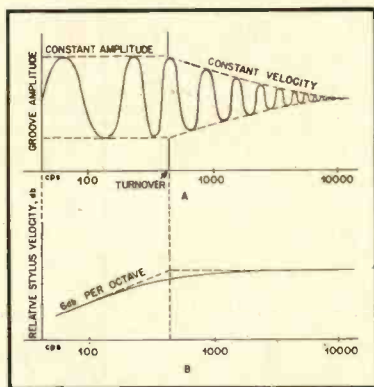

Fig. 9-2. (A) Constant-amplitude recording below turnover. (B) Bass attenuation required for (A).
All of these results are undesirable, and are counteracted by a doctoring of the bass-frequency content of the signal, to be compensated for in playback. Progressive bass attenuation is introduced below an arbitrarily chosen point, called the *turnover* frequency, in such an amount that the amplitude of groove deviation for all signals below this frequency remains the same for the same signal amplitude. This last relationship defines *constant amplitude*, and is illustrated at (A) in Fig. 9-2.
In order to keep the groove amplitude constant for signals varying only in frequency the oscillatory velocity of the cutting stylus must be halved with each octave. This attenuation rate may be expressed as 6 db per octave—a velocity ratio of 2 to 1 is actually represented by 6.021 db—and is plotted at (B) in Fig. 9-2. The sharp corner of the dotted line cannot be achieved in practice, so the actual recording curve rounds off this corner and is asymptotic to the straight lines.